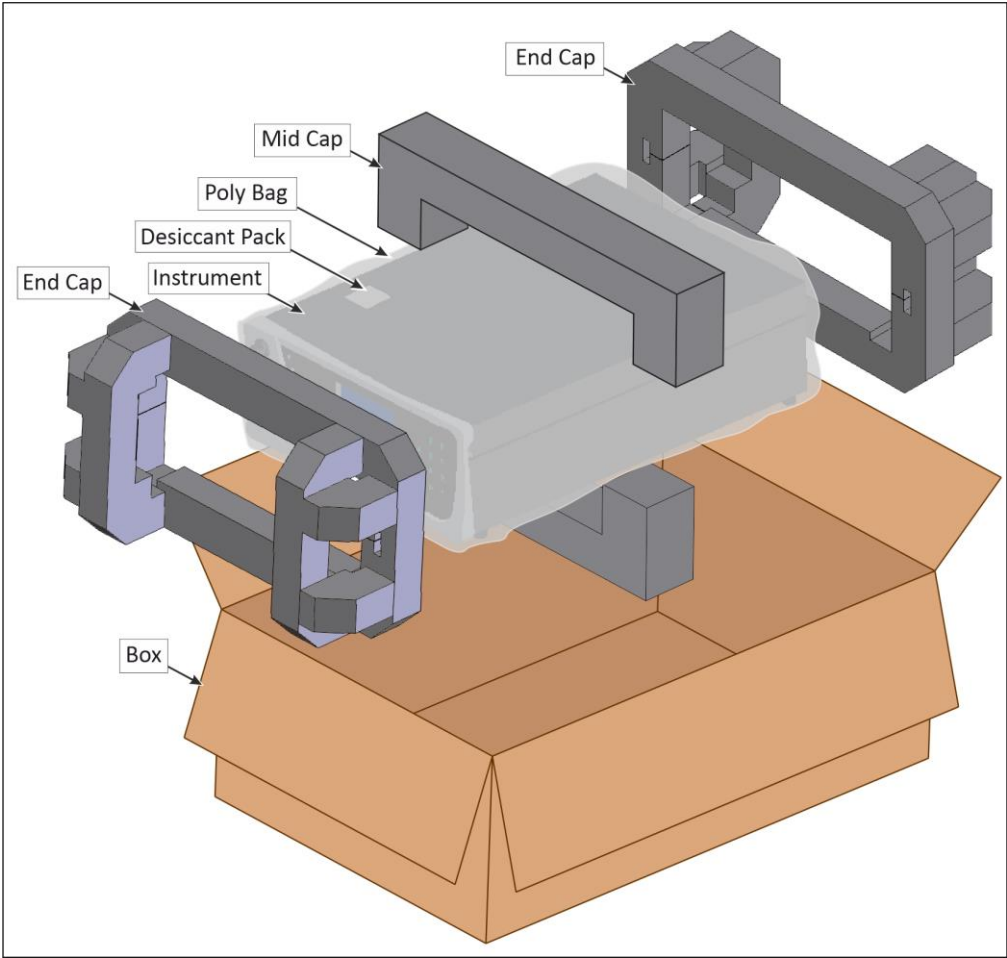

Figure 35 – Packing Instruction
9. Refer to Figure 35. Place the instrument back into the original foam and box it was delivered in. If this is no longer available find some equivalent packaging that provides protection from damage.